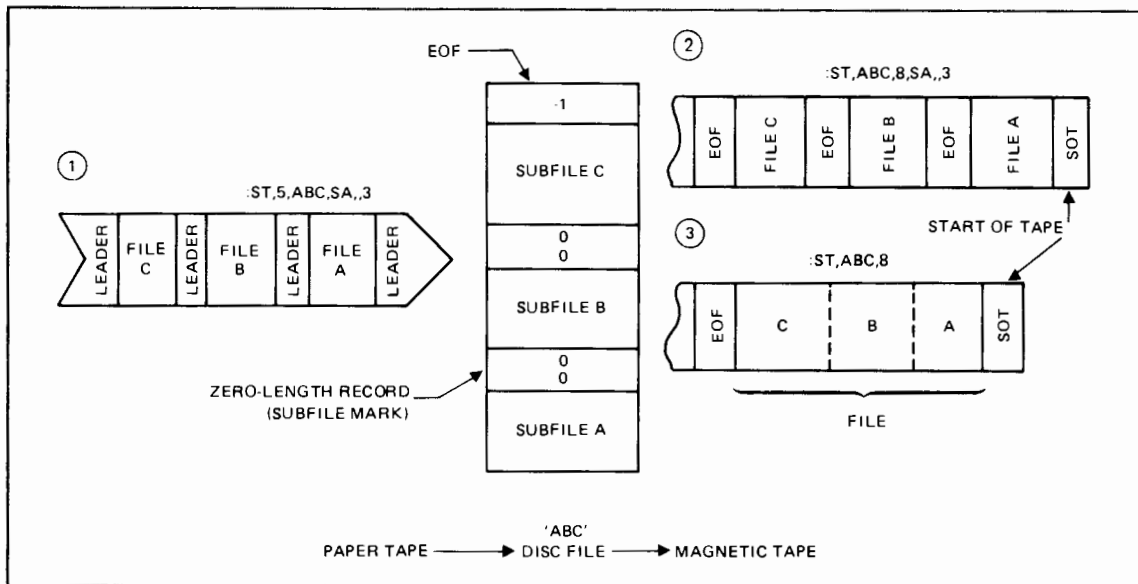

Figure 2-2. Relation of Files to Subfiles
Subfiles are useful when you want to save more than one tape file or relocatable program file (such as a library) on a single disc file and retain the files as separate entities. Subfiles can subsequently be stored (ST command) or dumped (DU command) to another file separately or as a single file. See Figure 2-2.
If *eof control* is omitted, an end-of-file mark is written on *namr2* following the last data transferred; on paper tape, leader is punched at the beginning of the file as well as at the end. Any zero-length records on disc or embedded end-of-file marks on non-disc files are not transferred to *namr2* (see ③ in Figure 2-2).
When SA is specified, the embeded end-of-file marks are converted to the form used by *namr2*. For instance, if a paper tape file is being stored on disc, the leader is converted to zero-length records (① in figure 2-2) and zero-length records to EOF marks on magnetic tape (② in the same figure).